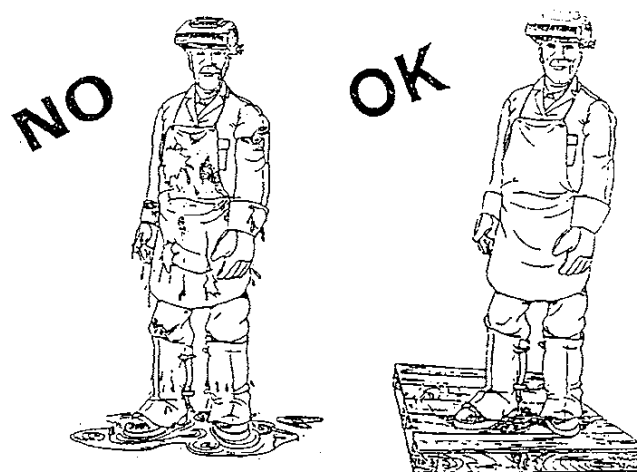

Fig.7
- Reinforcing personal protection devices, ground insulation and insulation between the piece to be welded and the operator (Fig. 7).